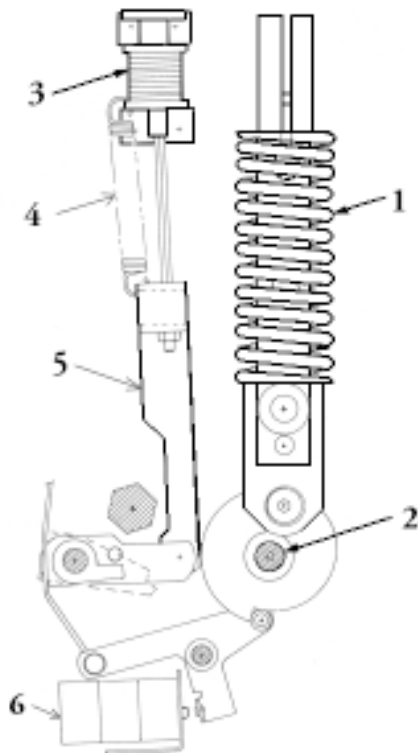
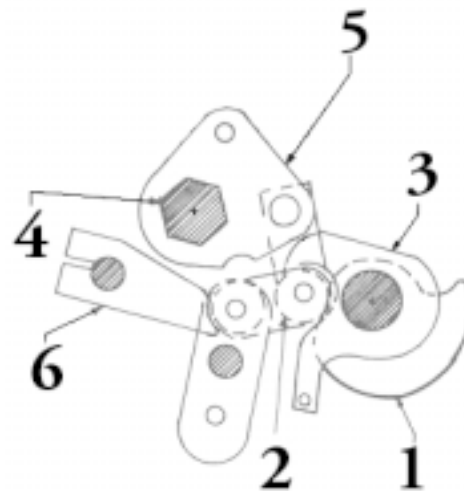
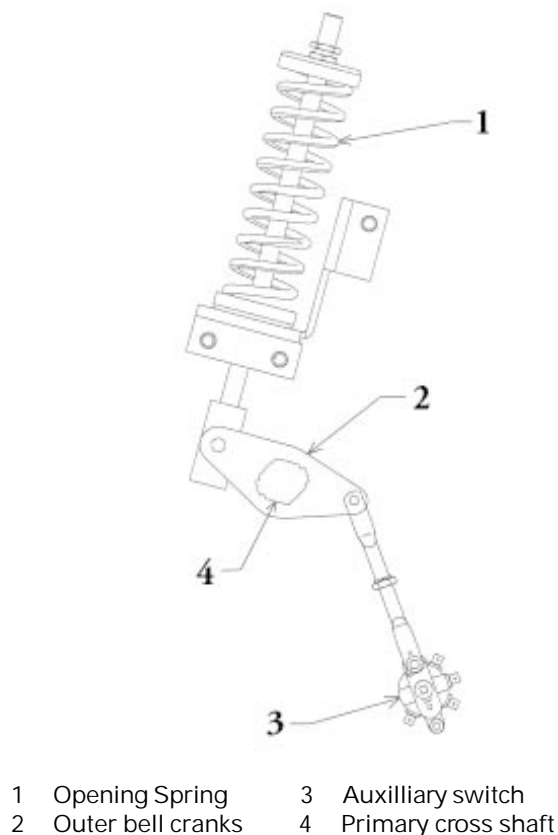
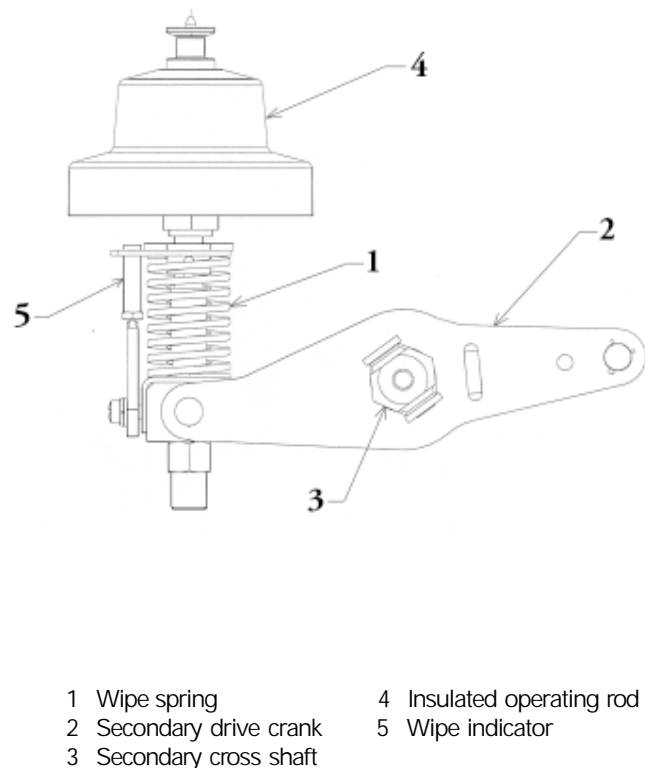

Figure 13. Charging & Trip system left side view
**Figure 15. Electrical Charging system
Figure 17. Opening spring & auxilliary switch left side view
Figure 18. Wipe Spring assembly-left side view
Figure 13 shows a left side view of the closing spring. The closing spring is charged and ready to close. The closing spring charging system consists of a closing spring mounted on the left side of the breaker and the electrical charging system mounted on the right side of the breaker. Both components are fastened to the cam shaft (Figure 13, Item 2).
Spring charging is accomplished electrically by a rotating eccentric on the output shaft of a gear motor (Figure 15, Item 6) which in turn drives pivoted charging arms (Figure 15, Item 1). The charging arms oscillate about the centerline of a ratchet wheel (Figure 15, Item 2). A driving pawl (Figure 15, item 3), mounted within the charging arms, oscillates with the charging arms. Starting from its rear-most position, the charging arms rotate forward, while spring forces engage the driving pawl with a tooth on the ratchet wheel. The ratchet wheel is advanced by the rotating charging arms and pawl assembly. Advancement of one tooth spacing is provided for each oscillation of the system. The ratchet motion is restricted to one direction by a spring-loaded holding pawl (Figure 15, Item 4) that prevents the ratchet wheel from going backwards as the charging arm oscillates back to pick up the next tooth. Thirteen complete cycles of the charging arms are needed for a full charge of the closing spring. The efficient, compact gear motor accomplishes this action in about two seconds. When the charging cycle is complete, the ratchet wheel is positioned so that a missing tooth is adjacent to the driving pawl and any motor overspin will not drive the ratchet wheel, thus preventing damage to the system.
The closing coil cannot be electrically energized unless the closing spring is completely charged. This action is prevented by the 52/CHG switch in the closing circuit. (Figure 13, Item 6)
By either energizing the close solenoid or depressing the manual close button (Figure 1, Item 8) the close latch (Figure 15, Item 5) is rotated, releasing the closing spring (Figure 13, Item 1). This action releases the energy in the closing spring and transmits it to the closing cam (Figure 16, Item 1) and closing roller (Figure 16, Item 2) causing the linkage to rise until the close prop (Figure 16, Item 3) can slip under the linkage roller (Figure 16, Item 2) and hold the linkage in place. As the linkage moves, the primary drive crank (Figure 16, Item 5) rotates the primary cross shaft (Figures 16 & 17, Item 4) which in turn rotates the outer phase bell cranks. (Figure 17, item 2)
The rotation of the primary cross shaft rotates two outer phase bell cranks which compress the outer opening springs (Figure 17, Item 1). The primary cross shaft also rotates two sets of inner drive cranks that in turn rotate two outer sets of secondary drive cranks, (Figure 18, Item 2) As the outer secondary drive cranks rotate about the secondary cross shaft, the center drive cranks are rotated. The rotation of the secondary drive cranks close the vacuum interrupters, and compresses the wipe springs on all three phases. (Figure 18, Item 1) The interrupters are driven closed through insulated operating rods. (Figure 18, Item 4). This interrupters are driven closed through insulated operating rods (Figure 18, Item 4)
The rotation of the primary cross shaft (Figure 17, Item 4) also changes the auxiliary switch position. (Figure 17, Item 3) The position flag on the front panel will then indicate "CLOSED". After the breaker is closed, the charging motor is again energized and the closing spring is charged as described under "CLOSE SPRING CHARGING". Spring charging is possible when the breaker is in the closed position because the linkage is held in place by the prop.
By either energizing the trip solenoid (Figure 13 Item 3) or depressing the manual trip button (Figure 1, Item 7), the trip latch (Figure 16, Item 6) is rotated, permitting the linkage to collapse. The vacuum interrupter contacts will then open under the force of the wipe springs (Figure 18, item 1) and opening springs (Figure 17, item 1). At the end of the opening stroke, the center phase secondary drive cranks hit the dashpot limiting overtravel and rebound.
Rotation of the Primary cross shaft from the closed to the open position operates the auxiliary switch (Figure 17, Item 3) opening the trip coil circuit. When the closing spring has been recharged, (Figure 13, Item 1) the linkage is reset allowing the trip latch (Figure 16, Item 6) to rest in place on the trip roller, ready for another closing operation. If the closing spring has not been recharged, the trip latch will be held out of position. A latch-checking switch, 52 LCS (Figure 15, Item 7) will not close unless the latch is in its normal position. The contacts of the latch-checking switch are part of the closing circuit and will not allow for an electrical close until the latch is reset.
CAUTION: DO NOT REMOVE TIE BAR (FIGURE 18, ITEM 1) UNLESS SPRING HAS BEEN REMOVED FROM THE BREAKER.